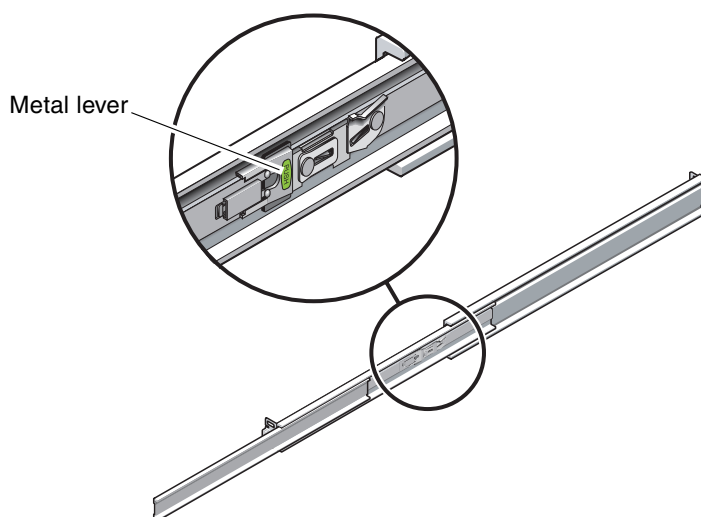

FIGURE 3-25 Unlocking the Slide Rail Middle Section
- d. Press the metal lever (labeled Push) on the middle section (FIGURE 3-25) of the sliding rail, then push the middle section back into the rack.